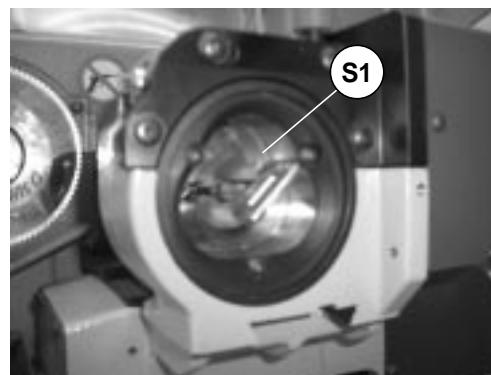
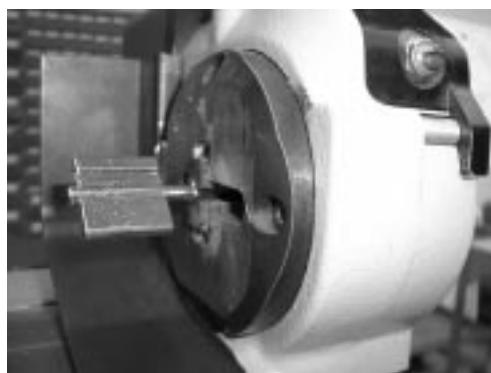

Fig. 54
Fig. 55
- 4) Fit the key blank into the rotating clamp (S1) from the front, positioning the square stem over the "V" on the grips diagonally so that the left-hand bit is sloping downwards (fig. 54 and fig. 55).
- 5) Close the mobile clamp jaws slightly, using the T wrench already in the screw (V1), without gripping the key stem; move the rotating clamp (G) towards the tailstock, keeping a minimum safety distance of 10 mm between the rotating clamp jaws and the rear limit of the bit. Secure the rotating clamp in position by means of knob (T1).
- 7) Fit the key blank into the rotating clamp (**S1**) from the front, positioning the square stem over the "V" on the grips diagonally so that the left-hand bit is sloping downwards (fig. 54 and fig. 55).